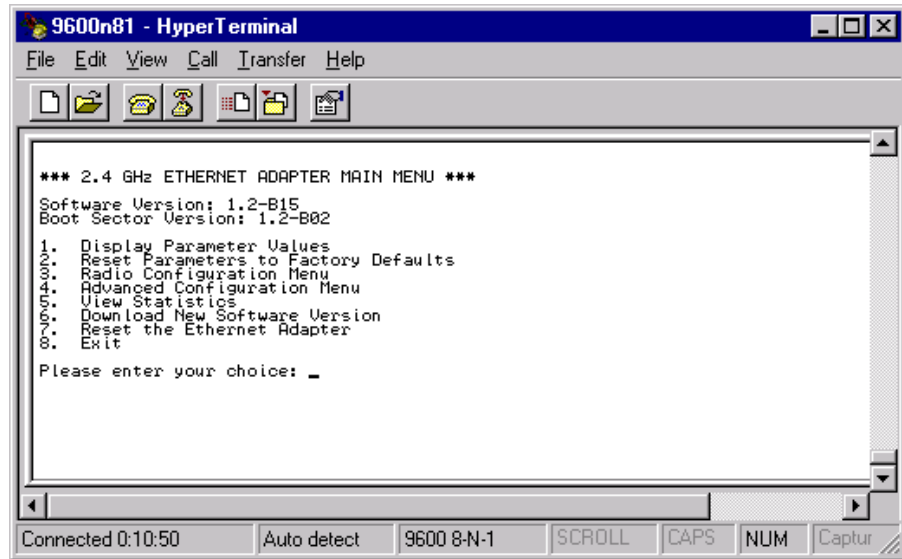

Figure 5-51 2.4 GHz ETHERNET ADAPTER MAIN MENU
Step 16. Press the keyboard **Enter** key and the **2.4 GHz ETHERNET ADAPTER MAIN MENU** of Figure 5-51 will appear.